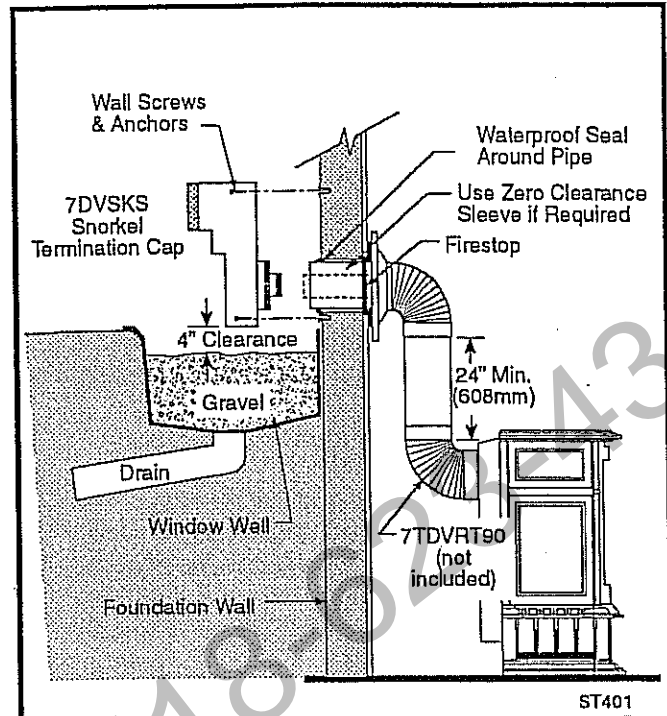

Fig. 49 Snorkel Kit 7DVSKS installation.
Snorkel Vent Kit #7DVSKS should be installed when it is not possible to meet the required vent termination clearances of 12 inches (305mm) above grade level. The snorkel kit will allow installation depth of down to 7 inches (178mm) below grade level. The 7 inches is measured from the center of the horizontal vent pipe as it penetrates through the wall. If the venting system is installed below ground, a window well must be installed with adequate and proper drainage. (Fig. 49)
A minimum 24" (608mm) vertical pipe must be installed when using the 7DVSKS Snorkel Kit. (Fig. 49)
2. Remove soil to a depth of approximately 16" below the base of the snorkel. Install a window well (not supplied). Refill the hole with 12" coarse gravel and maintain a clearance of at least 4" below the snorkel. (Fig. 49)